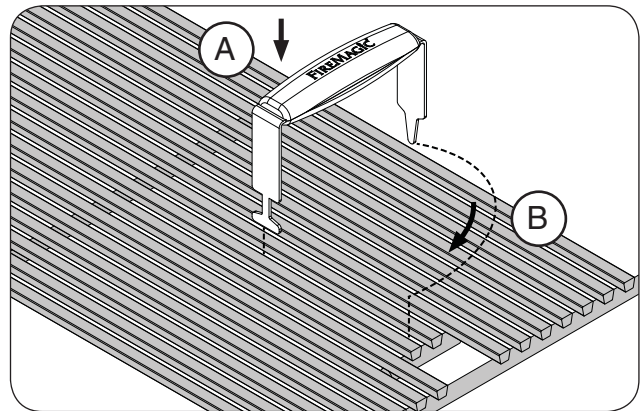

Fig. 23-1 Install cooking grids
1. With the prongs facing downward, insert the notched-end of the lifter between two grid rods, then rotate, as shown in Fig. 23-1, A & B.
2. Insert the rear pointed-end of the lifter between the same two rods (Fig. 23-1, B) and carefully lift the cooking grid and place onto the front and rear grid rests of the grill (see Fig. 23-2). Repeat for all other cooking grids.